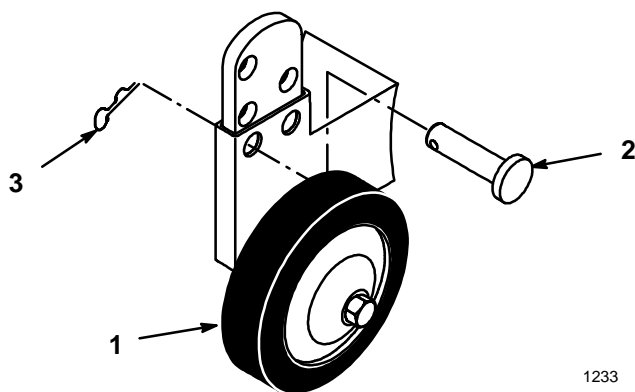

Figure 28
2. To adjust wheel height off the ground, remove the hairpin cotter and pin to change hole location (Fig. 28).
3. Select a hole position so the wheel is $\frac{3}{8}$ " (9.5 mm) off the ground for the height-of-cut position to be used (Fig. 28).